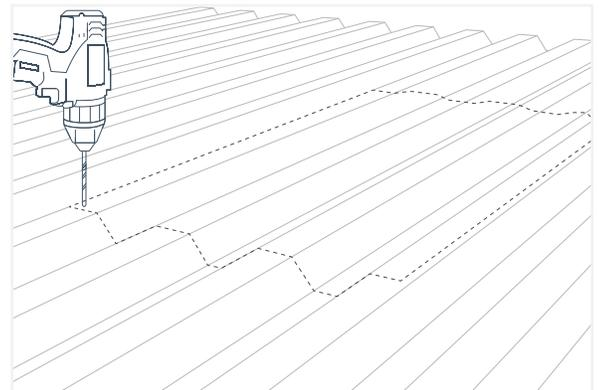

Fig. 11
3. Drill a 1/2" hole in the corner of the required opening (Fig 11).